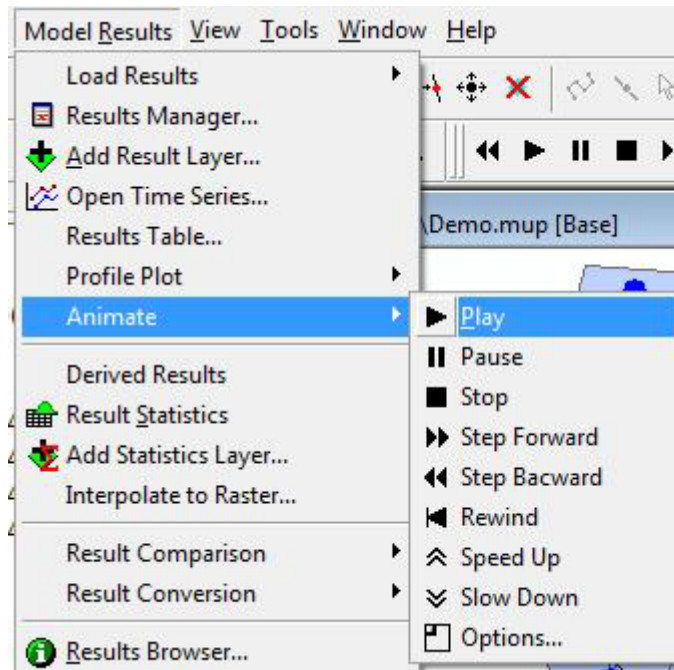

Figure 23.48 Animation of results
- Go to Model Results|Animate, see Figure 23.48
- Press Play in order to play the animation. The various options for playing the animation can be seen in Figure 23.48.